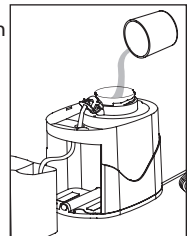

Fig. 5
- 4) Using the included measuring cup, fill the water heater tank with approximately 25 mL of tap water, Fig. 5. Do not fill water above the five square-shaped vents on the wall of the tank.